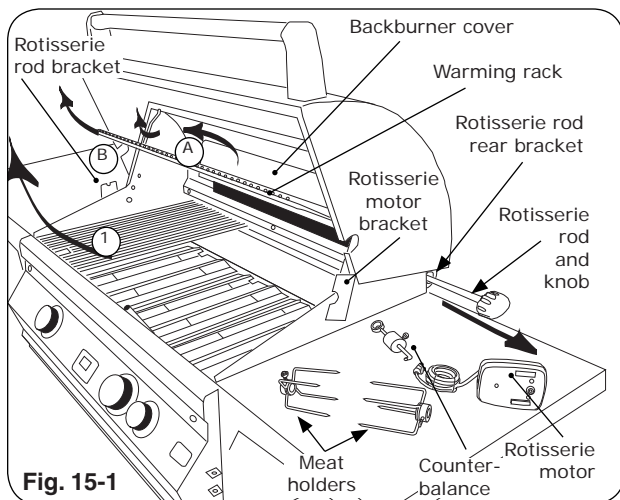
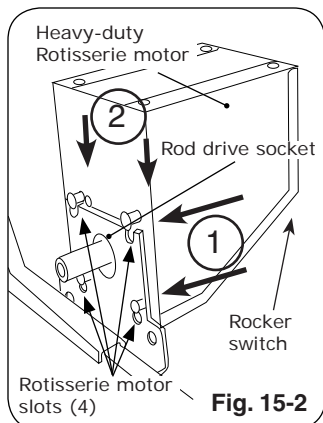
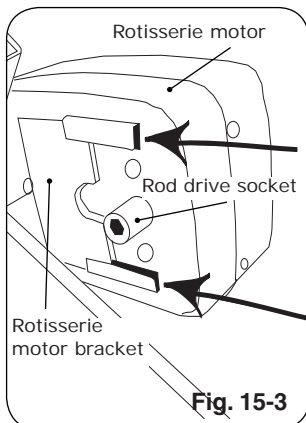

Fig. 15-1
Fig. 15-2
Fig. 15-3
2. Slide rotisserie motor fully onto motor bracket (right side, Fig. 15-2 or Fig. 15-3, and Fig. 15-1).
3. Remove rotisserie rod from rear bracket (Fig. 15-1) and attach knob if necessary.